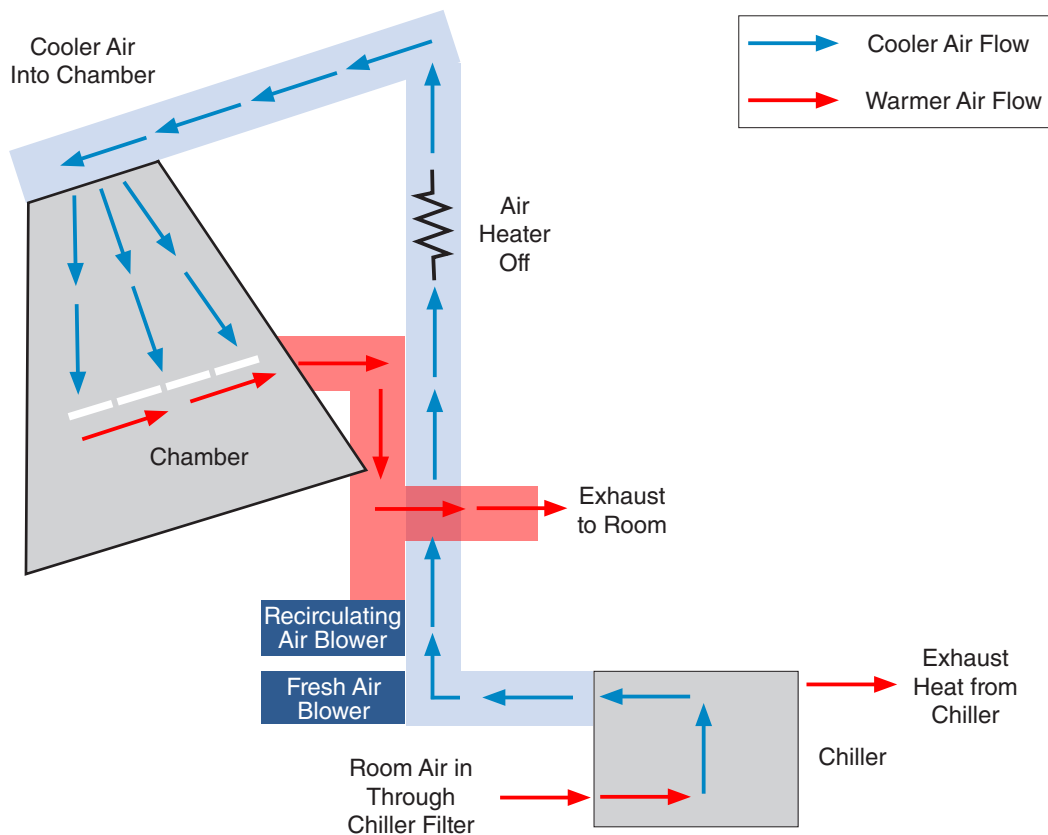

Figure 7.3c: Schematic showing air flow for chamber temperature cooling with chiller.
- The fresh air intake in the Xe-3 is blocked so that the air supplied to the fresh air blower is the cooled air from the chiller (Figure 7.3c).